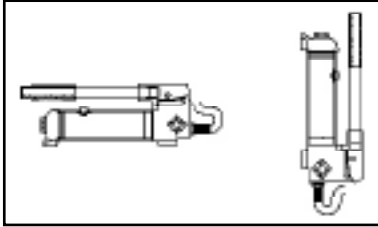

Figure 2 - Horizontal and Vertical position
1. Pump may be used in horizontal and vertical position as illustrated on figure 2 below.
| Erratic action                                                           | <ul style="list-style-type: none"> <li>• Air in system or pump cavitation.</li> <li>• External leakage in ram.</li> <li>• Ram sticking or binding.</li> </ul>                                          | <ul style="list-style-type: none"> <li>• Vent the system (refer to figure 2).</li> <li>• Contact service center.</li> <li>• Contact service center.</li> </ul>                                                                                                                                                                  |